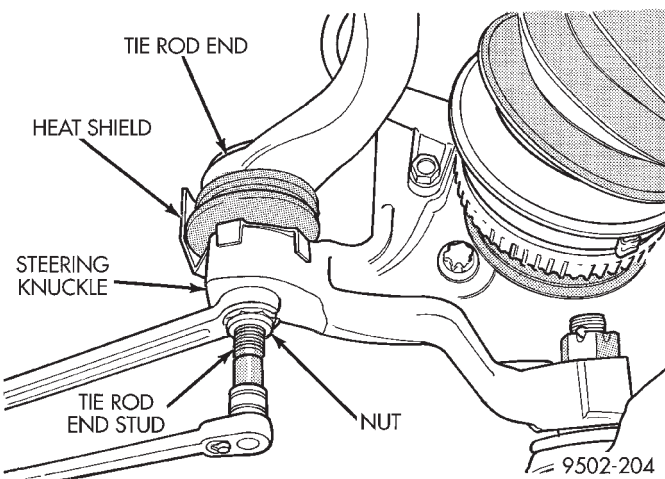
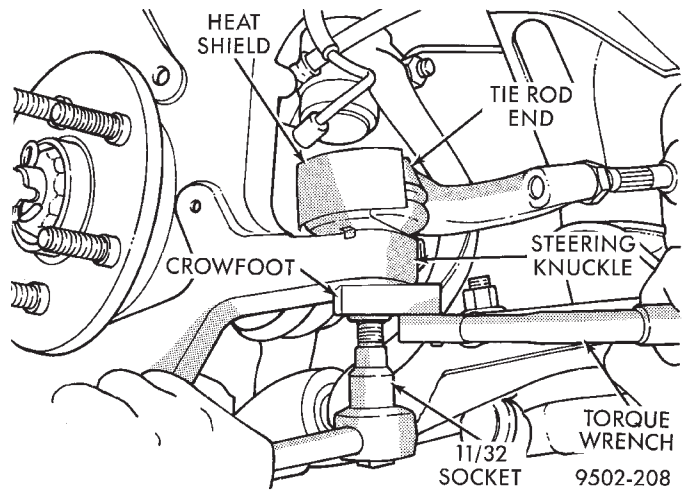

Fig. 36 Removing Tie Rod End Attaching Nut socket while loosening and removing nut with wrench (Fig. 36).
Fig. 45 Torquing Tie Rod End Attaching Nut
(10) Remove nut attaching the outer tie rod end to the steering knuckle (Fig. 36). **Nut is to be removed from tie rod end using the following procedure, hold tie rod end stud with a 11/32**
CAUTION: When installing tie rod on steering knuckle the heat shield (Fig. 45) must be installed. If heat shield is not installed, tie rod seal boot can fail due to excessive heat from brake rotor.
(5) Install tie rod end into the steering knuckle. Start tie rod end to steering knuckle attaching nut onto stud of tie rod end. While holding the stud of the tie rod end stationary, tighten tie rod end to steering knuckle attaching nut (Fig. 36). Then using a crowfoot and 11/32 socket tighten the attaching nut to a torque of 61 N·m (45 ft. lbs.) (Fig. 45).